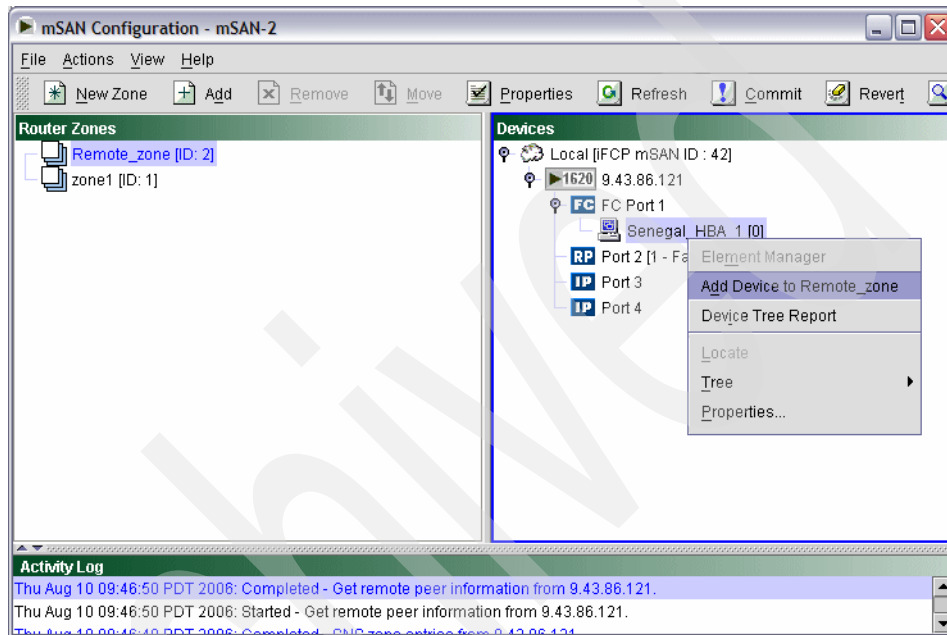

Figure 17-83 Add host's HBA to remote zone
- b. Add the host's HBA to the zone, as shown in Figure 17-83: